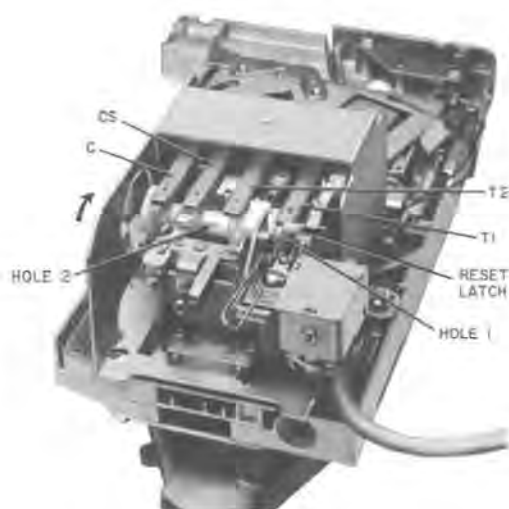

Fig. 10—Setting Totalizer Rate
- (1) Remove transparent totalizer cover by loosening captive cover screw.
- (2) Rotate totalizer shaft in proper direction (from bottom to top) until T2 springs (Fig. 10) rest in depression in shaft as indicated by movement of springs.
- (3) Depress reset latch toward bottom of totalizer.
- (4) Rotate shaft in proper direction until contacts T1 operate as indicated by an upward movement of the reset latch.
- (5) Do not allow shaft to move. Insert KS-16750, List 3 releaser or paper clip into hole 1 located near right-hand end of shaft. Do not disturb contact springs.
- (6) Hold tool firmly so that right-hand end of shaft cannot move.
- (7) Insert the second releaser or paper clip into one of the four "Hole 2" holes in center of shaft. Do not allow end of pin or clip to extend too far beyond shaft; this may damage insulation of coil located directly beneath shaft.
- (8) Rotate second releaser or clip in proper direction until T2 springs come to rest in depression in shaft. This is zero rate position. Do not remove releasers or clips from holes in shaft.
- (9) Set charge rate by rotating shaft in proper direction from the zero rate position according to Table D.
- (10) Remove releasers or paper clips.